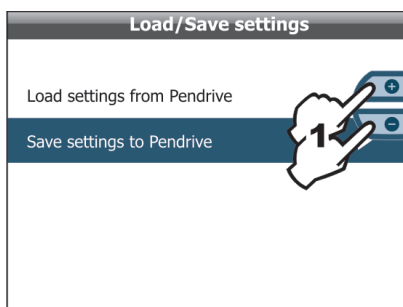

Fig. 76
- 1 Select item **Save settings to Pendrive** (Fig. 76) and press **OK**;